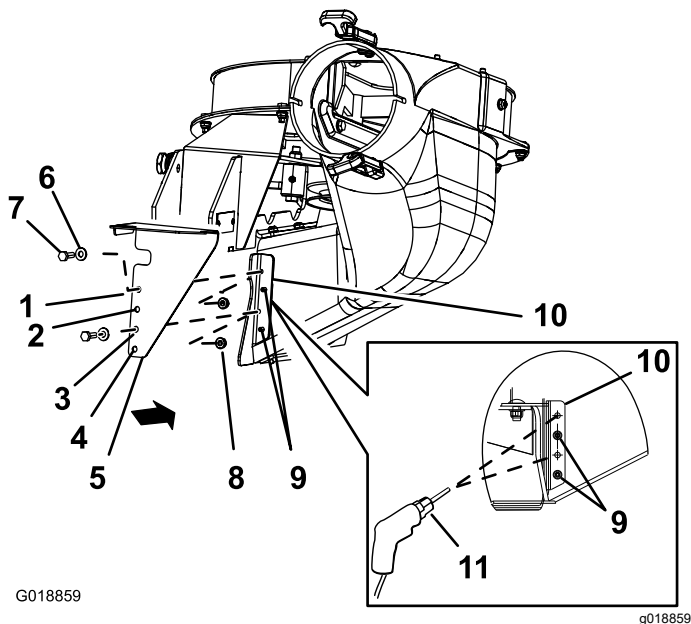

Figure 11
1. Align the lower CE lower guard to the blower-chute bracket as shown in Figure 11.
2. Align hole 2 and hole 4 of the lower CE lower guard to the rivet tails protruding through the blower-chute bracket (Figure 11).
3. Mark the outline of hole 1 and hole 3 of the CE lower guard on the blower-chute bracket, and remove the CE guard (Figure 11).
5. Drill 7 mm (0.28 inch) holes in the blower-chute bracket at the 2 center-punch marks (Figure 11).
1. Align the CE lower guard to the blower-chute bracket (Figure 11).
2. Align hole 2 and hole 4 of the CE lower guard to the rivet tails protruding through the blower-chute bracket (Figure 11).
3. Secure the CE lower guard to the blower with 2 hex-head bolts (1/4 x 3/4 inch), 2 washers, and 2 locknuts (1/4 inch) through hole 1 and hole 4 of the CE guard (Figure 11).